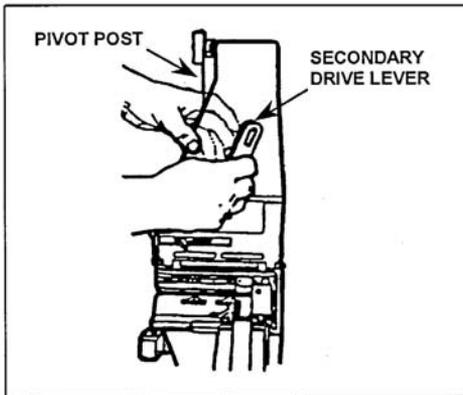

Figure 071-030-0001-6. Removal of the secondary drive lever
(2) Lift out the secondary drive lever from the top cover (figure 071-030-0001-7).